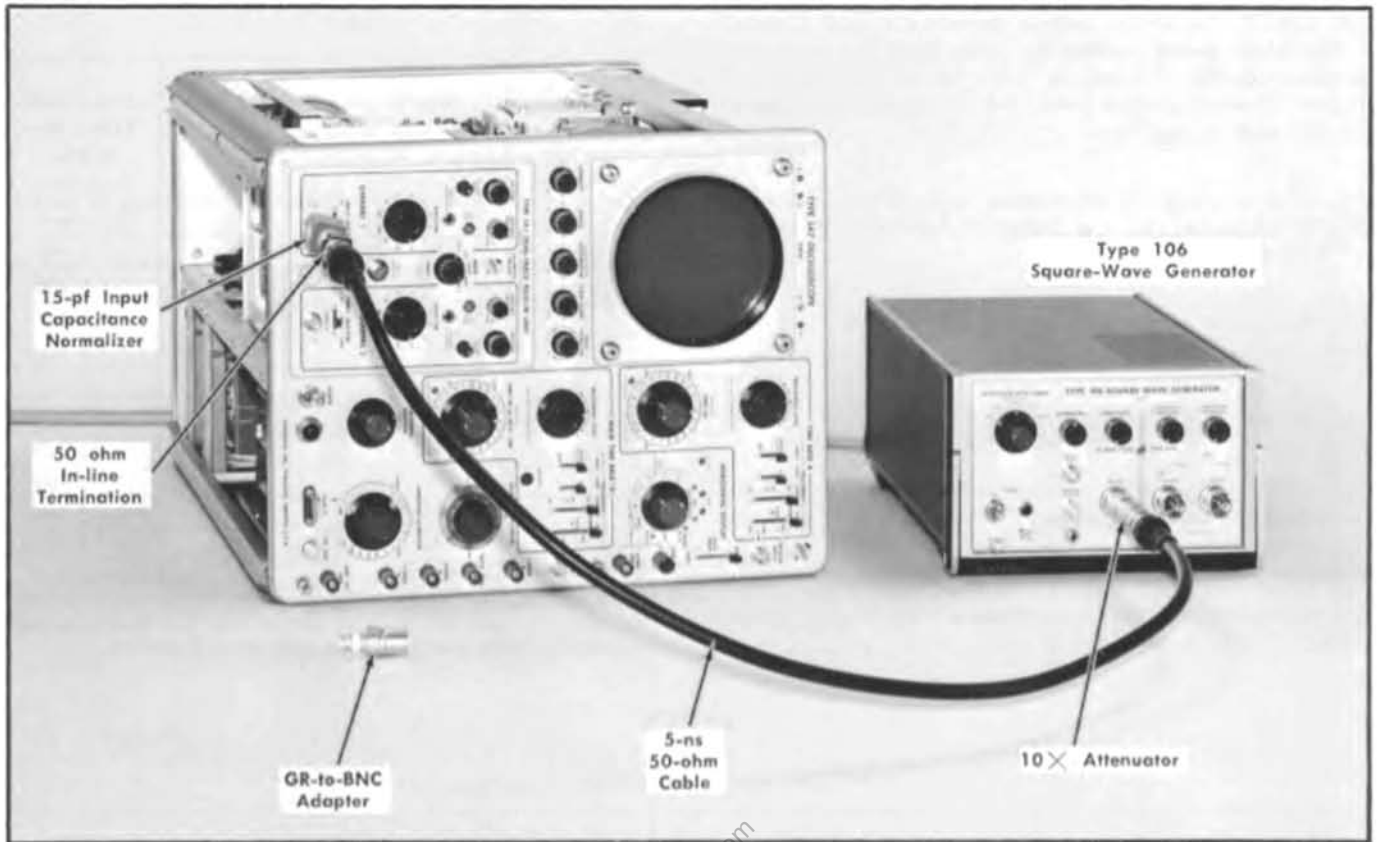

Fig. 7-24. Test equipment setup for step 21.
- a. Test equipment setup, with connections made at completion of step 21c, is shown in Fig. 7-24.
- c. Apply the 2.5 kHz signal from the Type 106 high amplitude output connector through a 10× attenuator, 5-ns 50-ohm cable, 50-ohm in-line termination and a 15-pF input capacitance normalizer to the Channel 1 INPUT connector on the Type 1A1 (see Fig. 7-24).
lustration shown in Fig. 7-24 and described in step 21c.